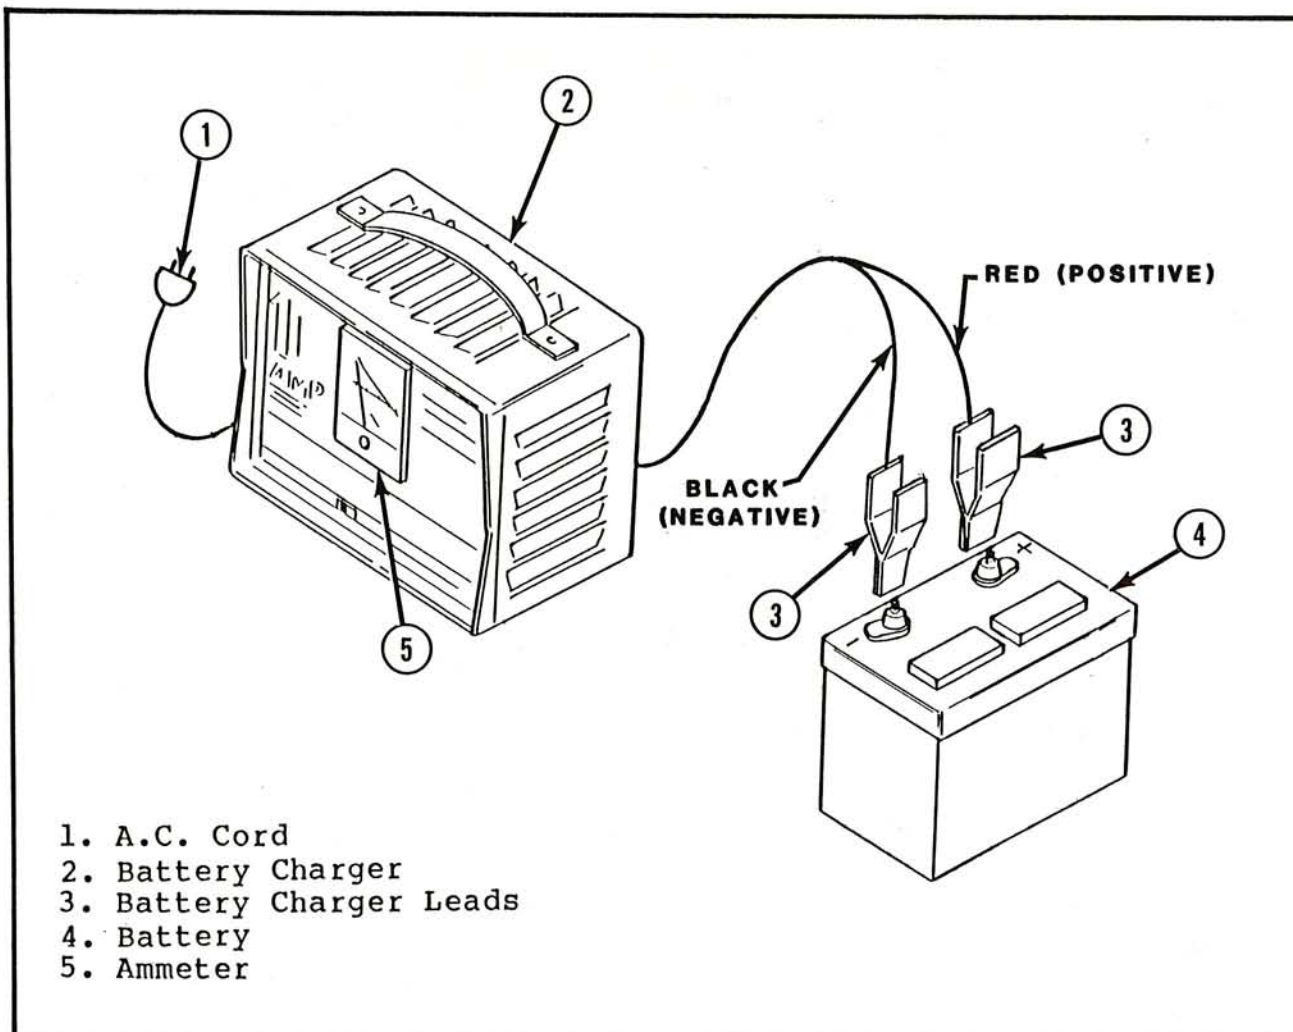

Figure 5-4. Battery Charger
(3) Clean battery when signs of corrosion at the terminals exist, or onto which electrolyte has overflowed during charging. Use a baking soda or ammonia solution to clean the battery, ensuring not to get the solution inside the cells. Rinse thoroughly with clear water. Clean battery and cable contact surfaces to a bright metal finish whenever a cable is removed.
b. Battery Charging (See Figure 5-4).
(1) Charge battery at end of each work shift or sooner if battery has been discharged.